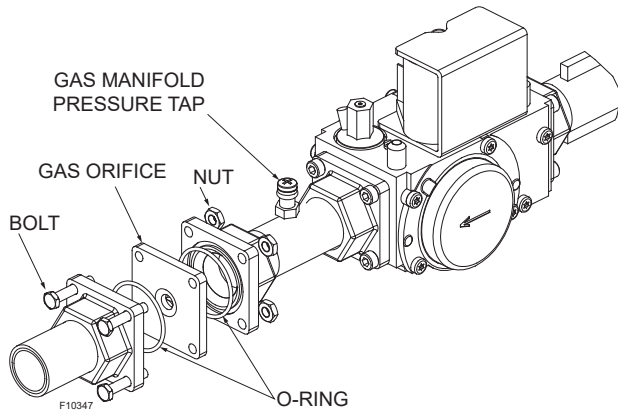

Figure 42. Gas Train
1. Gas manifold pressure is measured at the pressure tap between the gas valve and gas orifice (See **Figure 42**).
4. Locate and remove the (4) bolts & nuts holding the gas orifice in place. See **Figure 42** below.